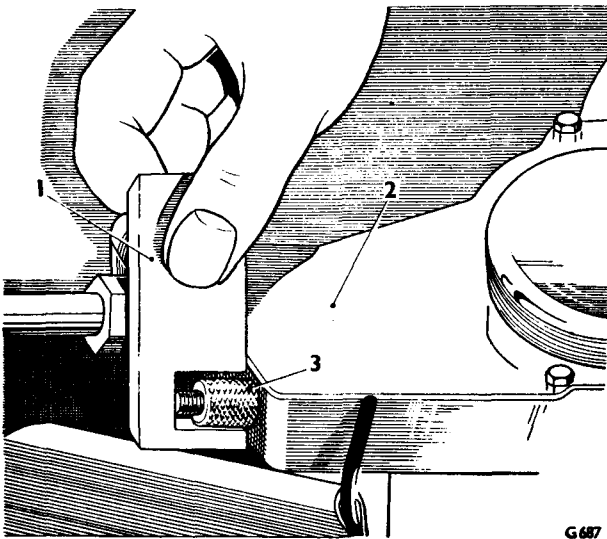

FIG. M71 WIPER MOTOR PARKING SWITCH SETTING
1. With the wiper motor and ignition switch off, adjust the parking switch by turning the knurled nut until the switch threads protrude 20,32 mm. (0.800 in.) from the cross-head (*see Fig. M71*). This check can be assisted with a gauge inserted behind the cross-head (*see Fig. M71*).